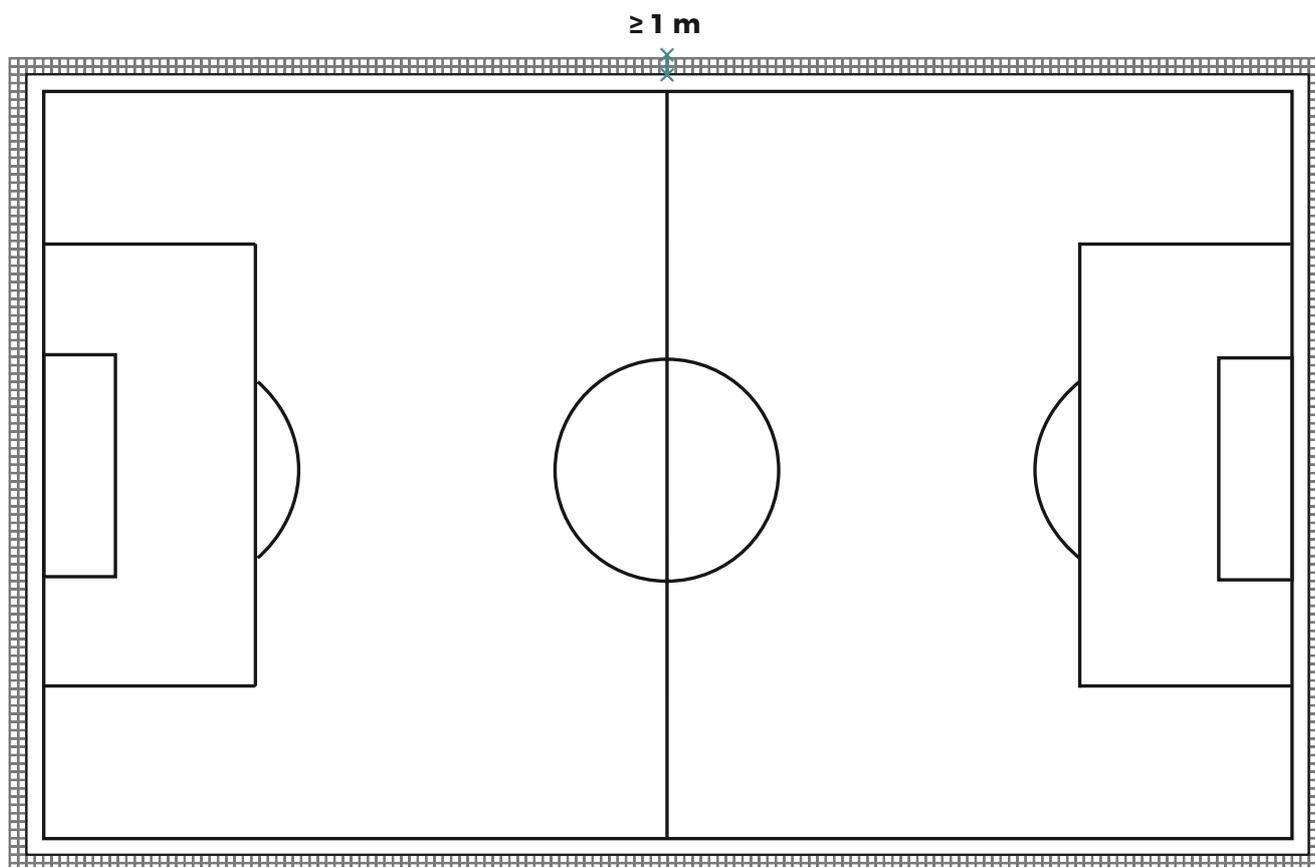

Figure 1 = Bird's eye view of pitch with paving stones all around the pitch perimeter (min. 1 m wide)
4. Consider making a paved / tiled surface all around the pitch, where excess infill material can be swept up and poured back onto the pitch (cf. Figure 1).